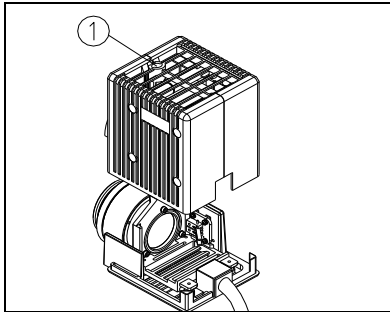

Fig.1
- (1) Loose lock-screw ① completely by M4 spanner, then take off the cover group. (See Fig. 1)